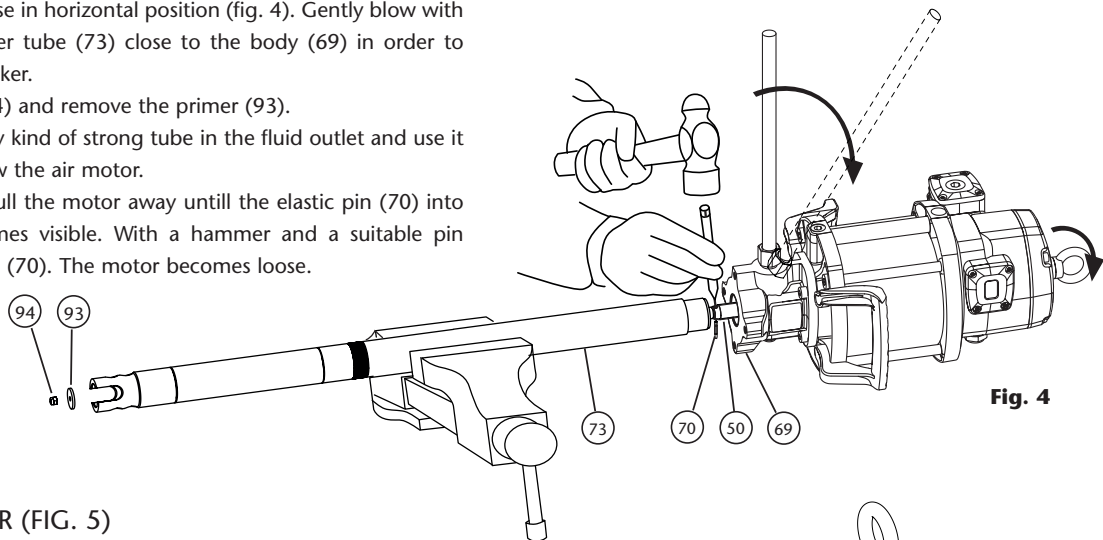

Fig. 4
SEPARATE THE AIR MOTOR FROM THE PUMP (FIG. 4)
1. Fix the pump in a vise in horizontal position (fig. 4). Gently blow with a hammer the upper tube (73) close to the body (69) in order to break the thread locker.
2. Unscrew the nut (94) and remove the primer (93).
4. Once unscrewed, pull the motor away until the elastic pin (70) into the rod (49) becomes visible. With a hammer and a suitable pin punch, eject the pin (70). The motor becomes loose.